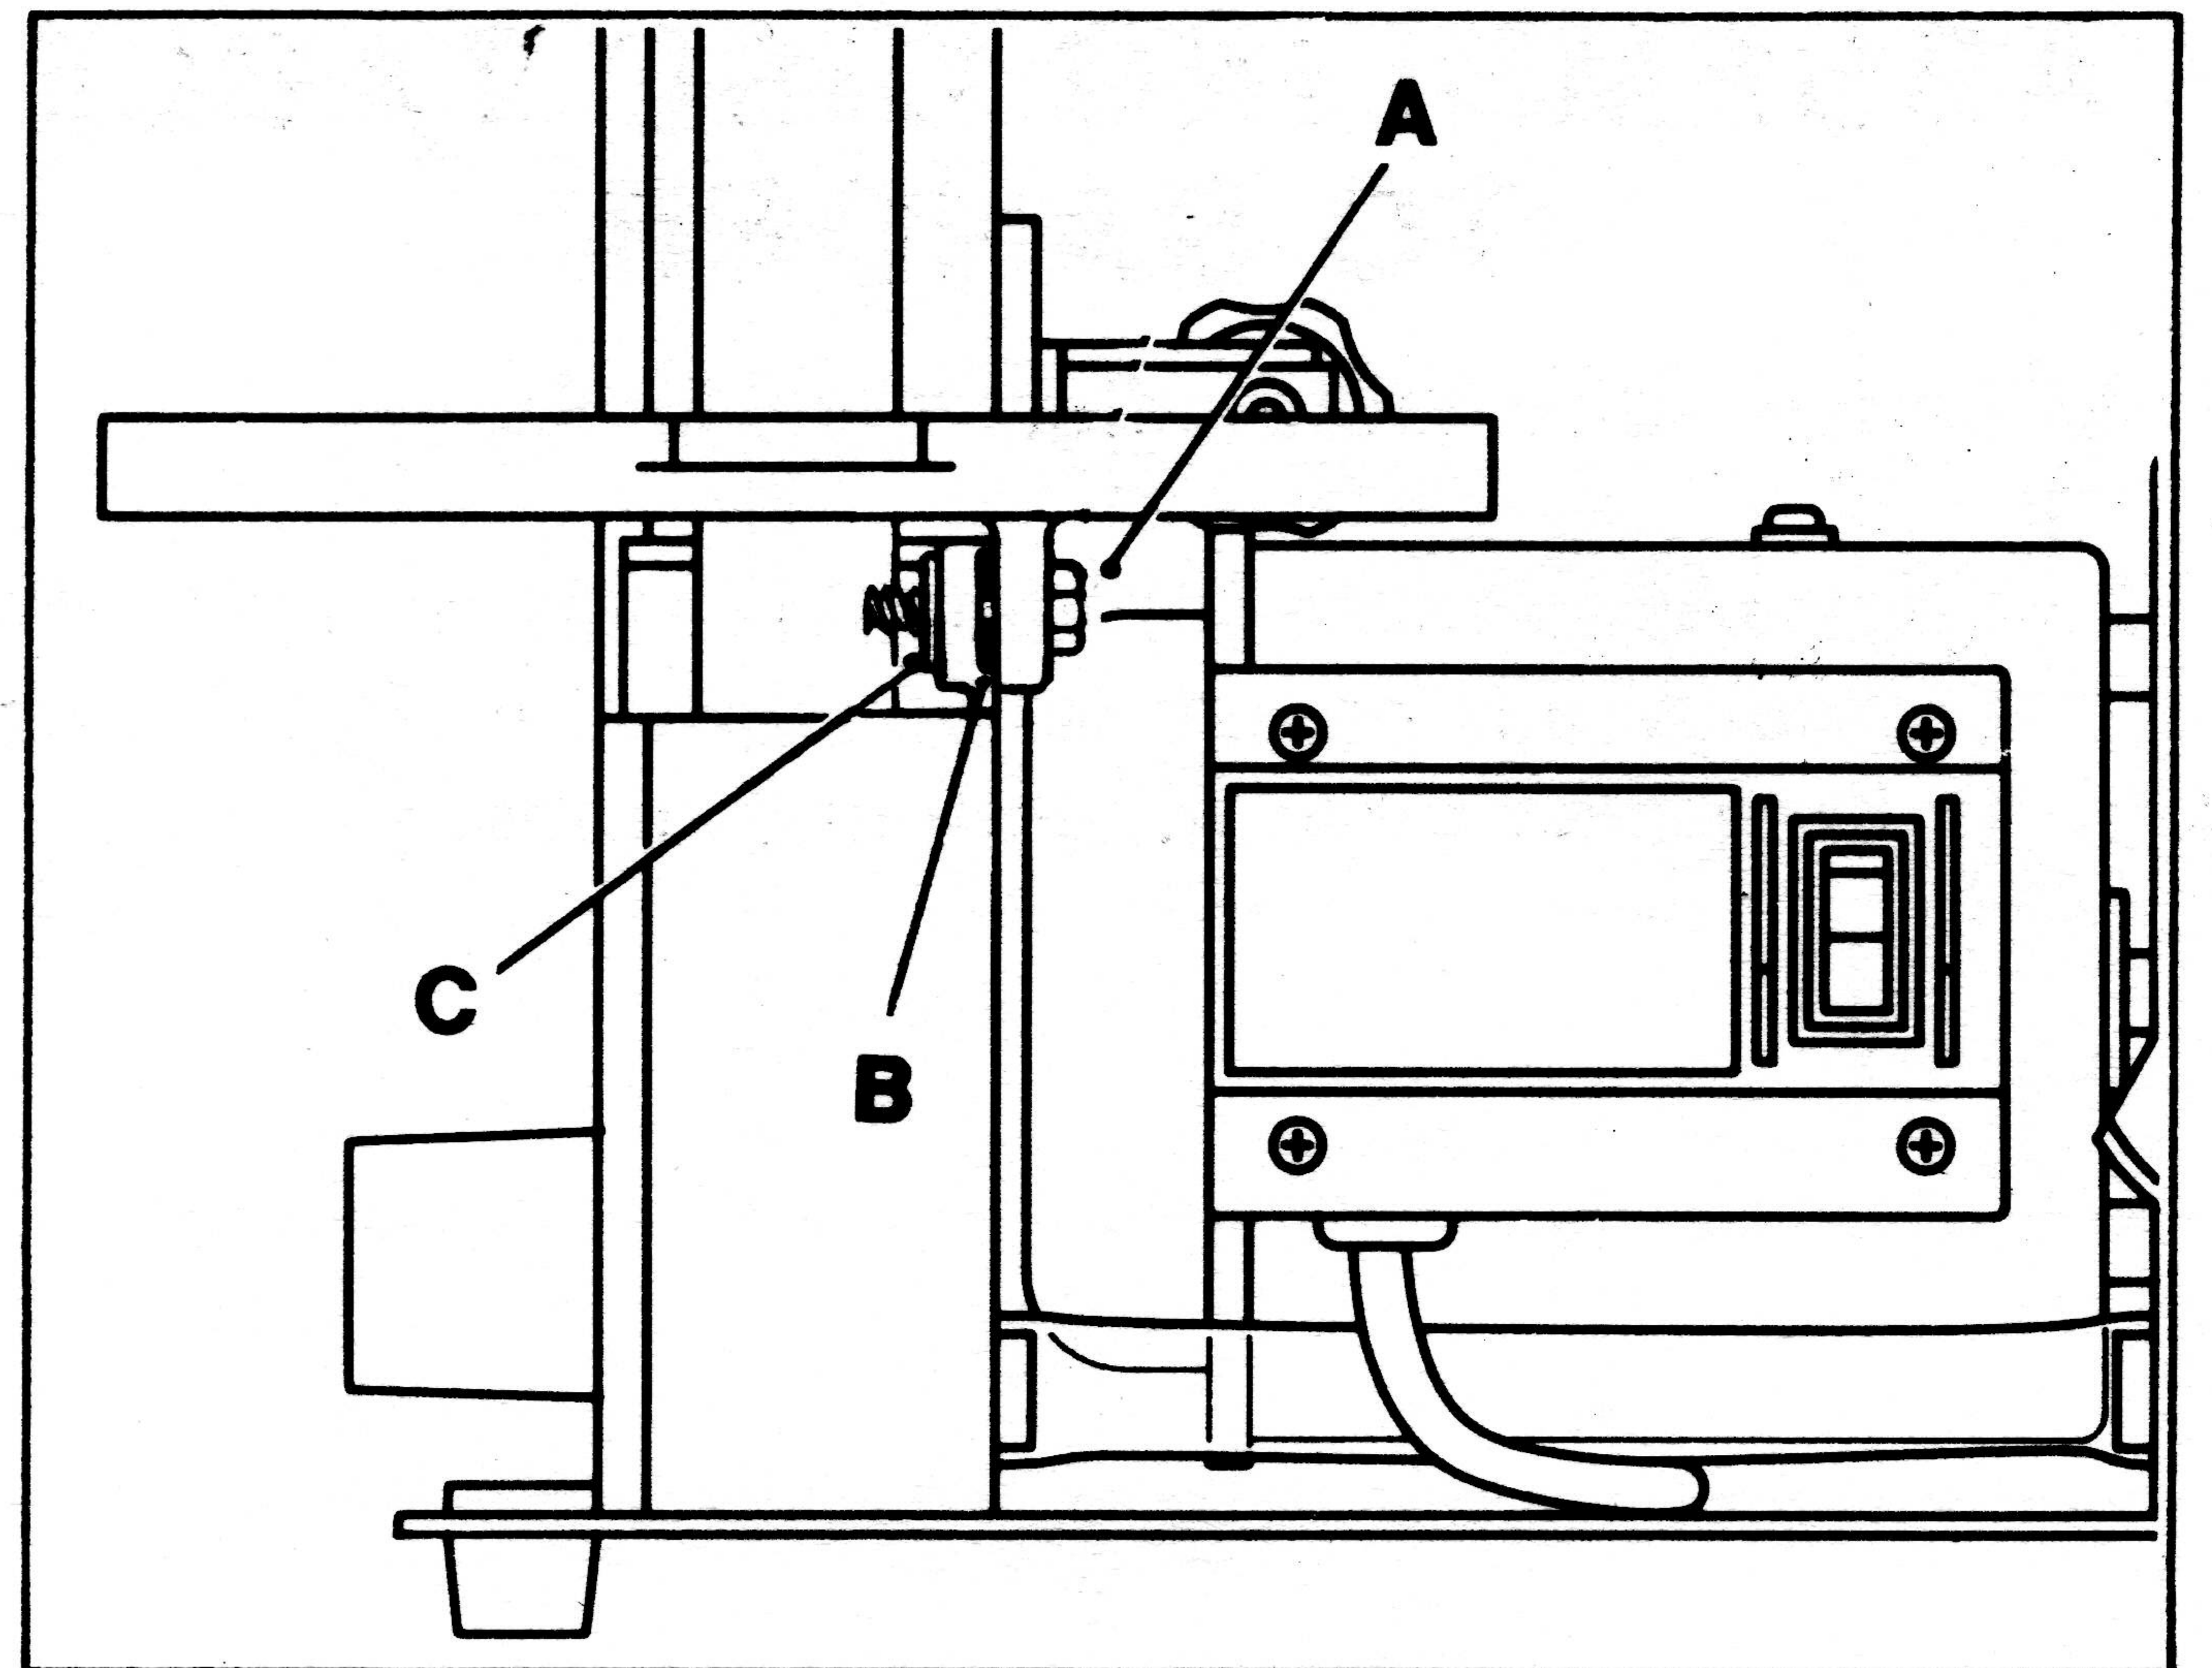

Fig. 3
2. Insert screw (A) through hole in table. Place star washer (B) onto screw (A). Insert screw (A) through hole in sander frame, as shown in Fig. 3.
3. Place flat washer (C) onto screw (A) Fig. 3.